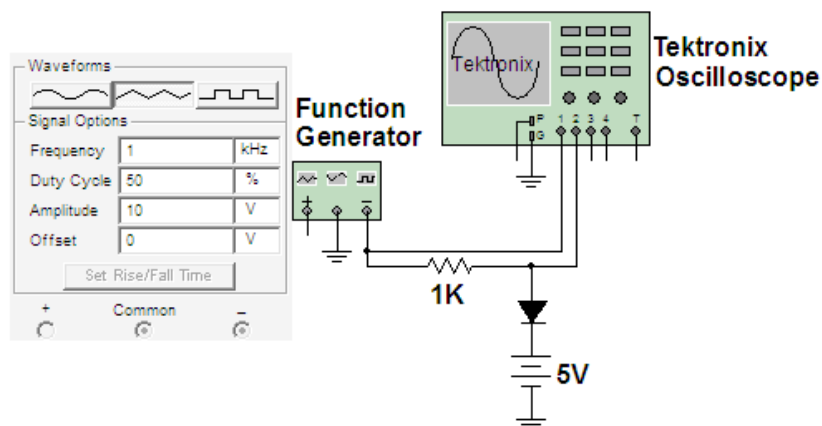

Fig: 4
1. Connect the circuit as shown in fig 4.